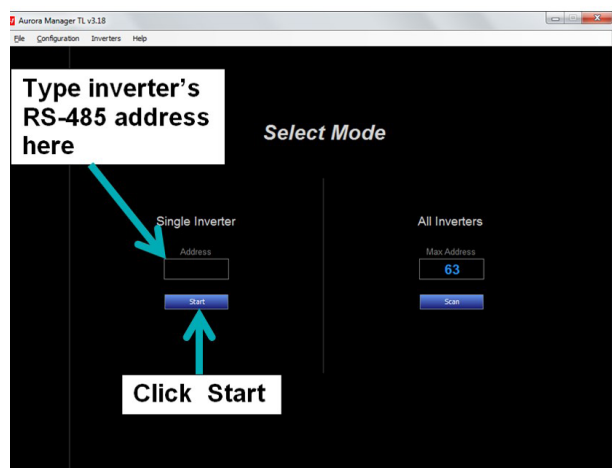

Figure 9 “Start” screen where inverter RS-485 address is entered
- In the Select Mode screen of the software, enter the RS-485 address of the target inverter into the Single Inverter address field as shown in Figure 9 below.